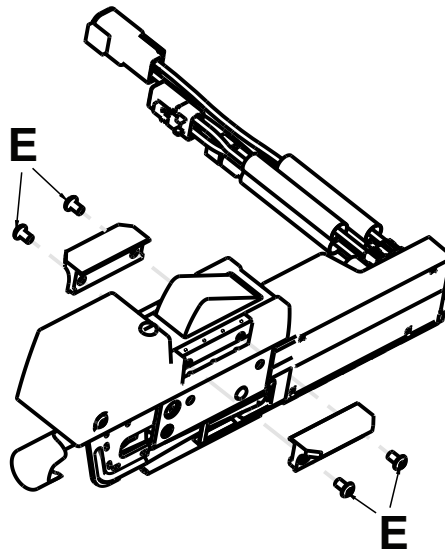

Figure 52 – Remove the retainer wings
11. Using a T25 Torx driver, remove the four button head cap screws (E) that secure the two retainer wings and remove the retainer wings (Figure 52). Save the screws.